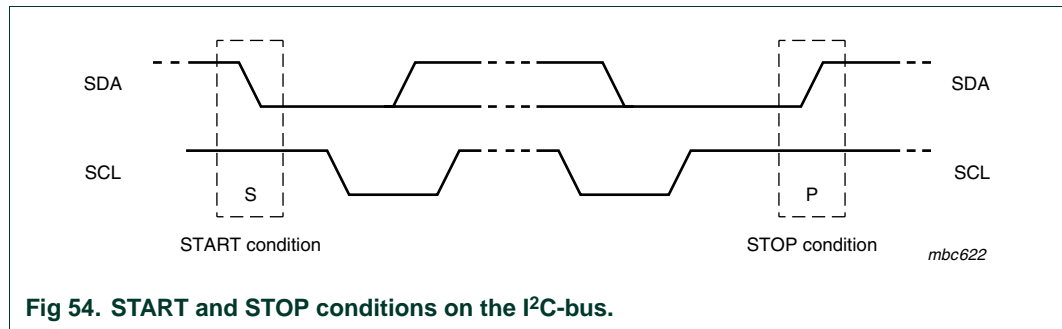

Fig 54. START and STOP conditions on the I²C-bus.
Both data and clock lines remain HIGH when the bus is not active. A HIGH-to-LOW transition on the data line, while the clock is HIGH, is defined as the START condition (S). When this occurs the bus becomes 'busy'. A LOW-to-HIGH transition on the data line while the clock is HIGH is defined as the STOP condition (P). This terminates data transfer and frees up the bus; see Figure 54.